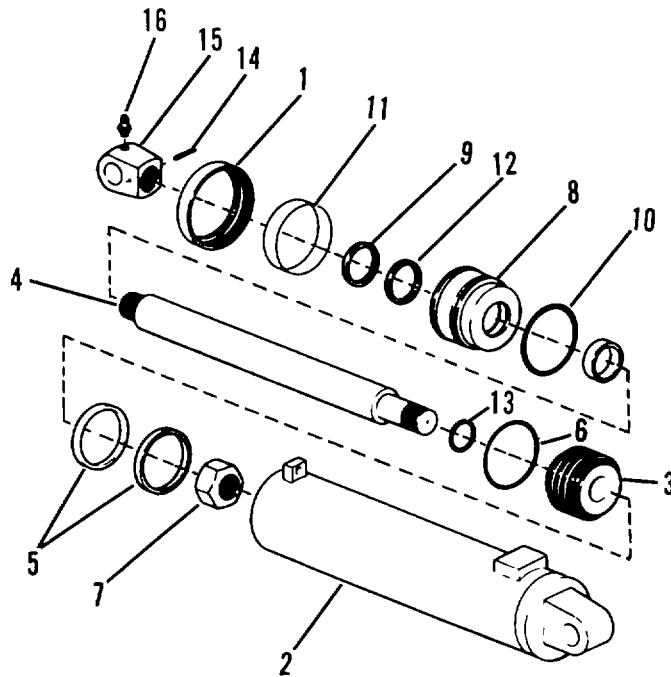

Figure 4-16 . Lift Cylinder Assembly (Sheet 1 of 2) .
- (1) Secure lift cylinder in bench vise with soft jaws.
- (2) Unscrew locking ring (1, Figure 4-16) from cylinder barrel (2) with a spanner wrench.
- (3) Carefully remove piston (3) and piston rod (4) from cylinder.